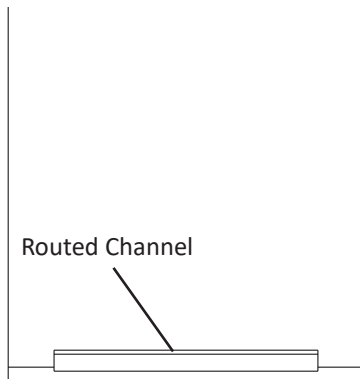

Fig. 8
- 1) Route a channel at the bottom of the overlay panel to the proper dimensions. See "(C) Routed Area" in the specification diagram and Fig. 8.